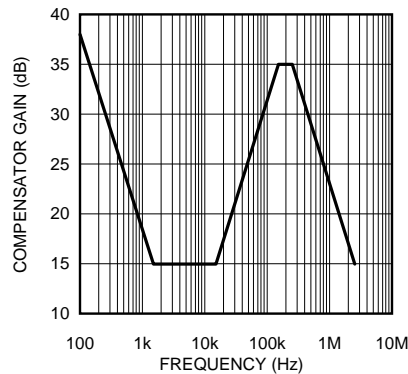

Figure 15. Compensator Gain
The complete transfer function for the regulator loop is found by combining the compensation and power stage transfer functions. The LM22680 has internal type III loop compensation, as detailed in Figure 15. This is the approximate "straight line" function from the FB pin to the input of the PWM modulator. The power stage transfer function consists of a dc gain and a second order pole created by the inductor and output capacitor(s). Due to the input voltage feedforward employed in the LM22680, the power stage dc gain is fixed at 20dB. The second order pole is characterized by its resonant frequency and its quality factor (Q). For a first pass design, the product of inductance and output capacitance should conform to Equation 4.